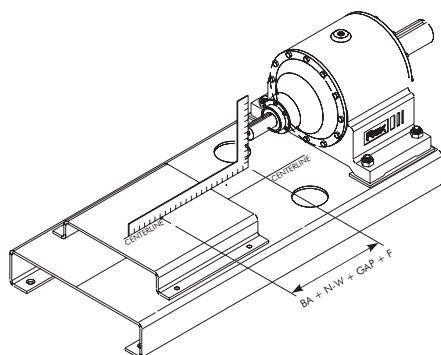

Figure 7 — Layout of Motor Mount Holes on Pedestal
- With a carpenter's square positioned as shown in Figure 7, measure off the distance that was calculated where the center of the pedestal is with respect to the end of the reducer input shaft.